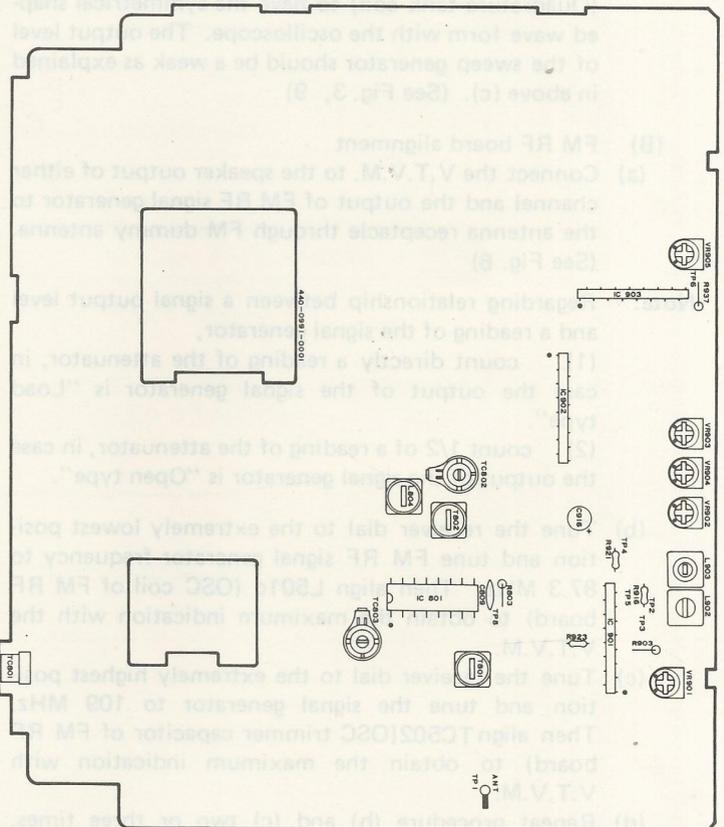

Fig. 3
- (d) Align each of I.F.T. (T801 and T802) to obtain the maximum and symmetrical wave form on the scope. (See Fig. 3)
- (e) Tune the signal generator frequency to 1400 KHz, and tune the receiver to it. Align TC801 and TC803 (ANT. RF trimmers) to the maximum output of the receiver. (See Fig. 3) The output level of the signal generator should be kept low, approximately $30\mu V$ so that A.G.C. will not affect the alignment.
- (a) Connect the output of the sweep generator to TP9 of FM RF circuit, and the vertical axis input of the oscilloscope to TP4 (R921). Set the receiver wave band selector to FM DX position. (See Fig. 3, 5)
- (d) Transfer the vertical axis input of the oscilloscope to TP5 (between R923 and C916). Align L903 (Quadrature tank coil) to have the symmetrical shaped wave form with the oscilloscope. The output level of the sweep generator should be a weak as explained in above (c). (See Fig. 3, 9)